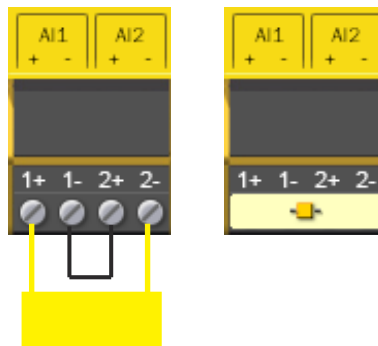

Figure 57: Connection of a safe single-channel analog signal transmitter
If only one individual sensor is used for a process variable, this sensor must be connected in series to both inputs; see figure 57.
- ▶ When using a safe single-channel analog signal transmitter, install a bridge between the connections AI1- and AI2+, see figure 57.